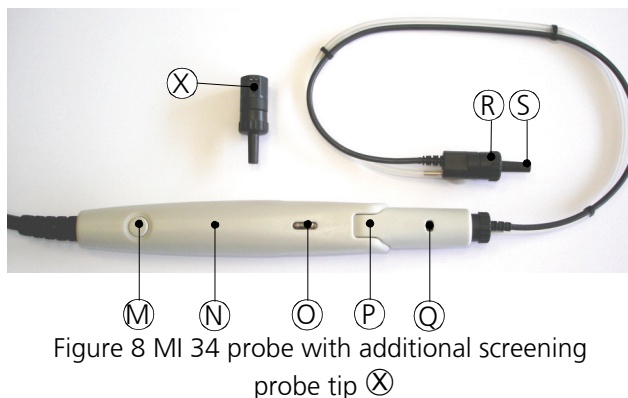
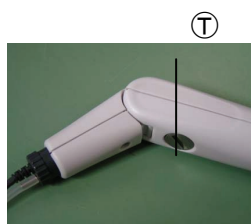

Figure 8 MI 34 probe with additional screening probe tip ⑧
Figure 9
The probe of the MI 34 is shown in figure 8. The probe head is adjustable in three steps (0°, 60° und 80°). It is adjusted by releasing the fixation screw (Figure 9 ①) at the bottom of the probe a few turns, using a coin or a screw driver. Adjust the probe head ② by pulling it into the required position until it rests. To do this hold the probe handle ③ with the other hand. After it is set to the required position fasten the fixation screw ① again.